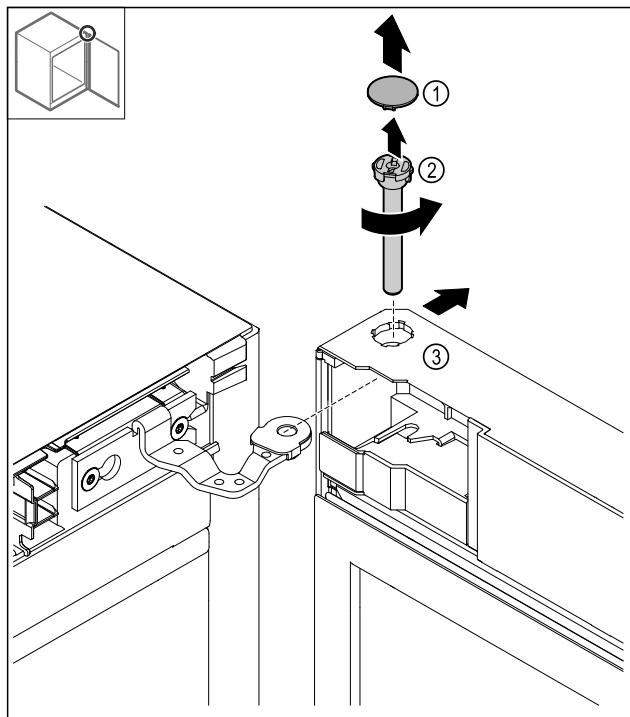

Fig. 13
- Removing the cover *Fig. 13 (1)*.
- Loosen the bolt *Fig. 13 (2)* anti-clockwise and pull it out.
- Tilt the door *Fig. 13 (3)* slightly.